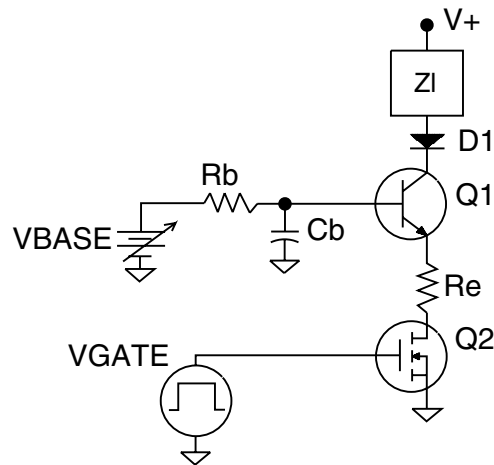

Figure 3.4 Basic Hybrid Cascode Configuration
The Power Amplifier (PA) is a hybrid cascode amplifier made of high voltage bipolar transistors and low voltage power MOSFETs. The schematic for this section is included in Figure 5.7a. Figure 3.4 shows the basic hybrid cascode amplifier configuration. The combination of Q1 and Q2 make up a fast, high-voltage amplifier that can be controlled by the combination of the dc voltage VBASE, and the fixed amplitude, variable pulse width signal, VGATE.